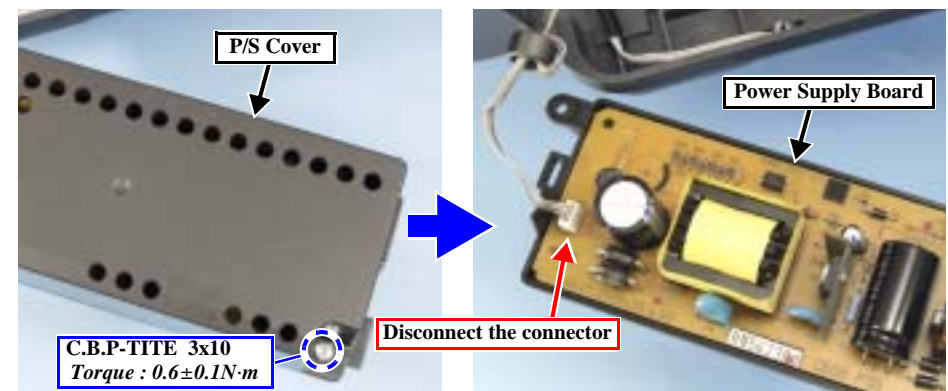

Figure 4-39. Removing the Power Supply Board
2. Remove the screw, and remove the P/S Cover. (Fig. 4-39)